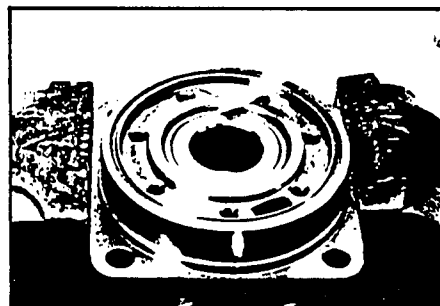

Figure 48
NOTE: The coupling shaft (12) will be flush or just below the housing wear plate surface on Small Frame, Series MG and MF Torqmotors when properly seated while the coupling shaft (12) on Large Frame, Series MB and ME Torqmotors will be approximately .10 inch (2.54 mm) below the housing wear plate surface to allow the assembly of thrust bearing (11). The coupling shaft must rotate smoothly on the thrust bearing package. SEE FIGURE 48.